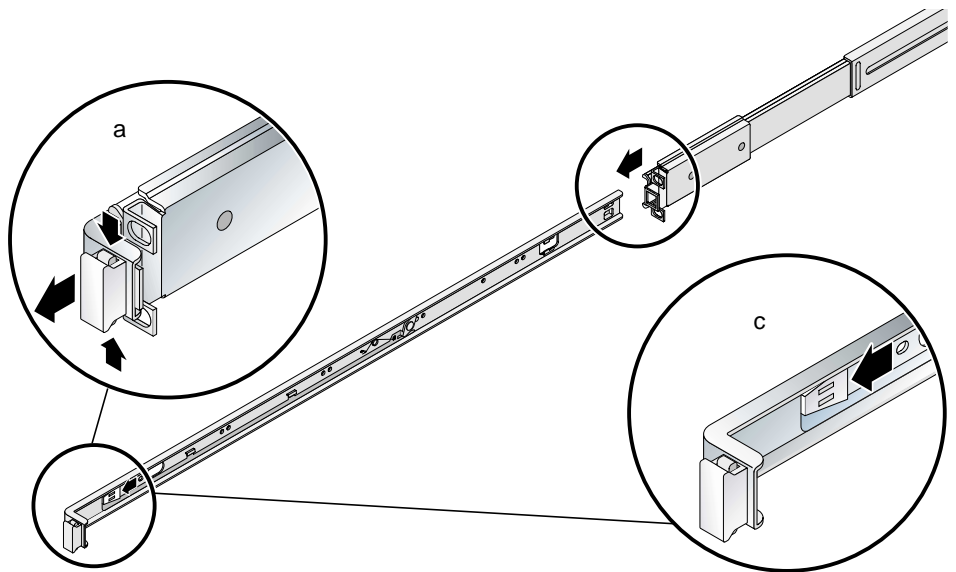

FIGURE 2-1 Removing the Inner Glide from the Slide Assembly
1. **Remove the inner glides from the slide assemblies.** See FIGURE 2-1.
- c. **Release the inner glide from the locked position by pulling the trigger on the inside of the inner glide.** See FIGURE 2-1.